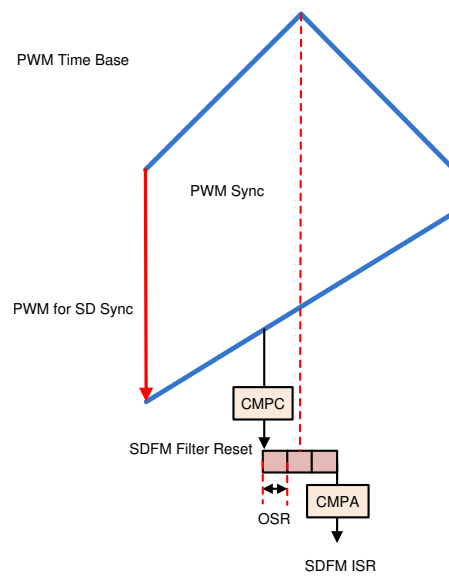

Figure 11. SDFM Filter Reset Being Generated From PWM Module and ISR Trigger to Read SDF Registers
On these devices, the PWM11 is tied to the SDFM reset generation; hence, the sync generation involves propagation of the sync from the inverter PWM to the PWM11 module. As the SDFM data is only valid 3 OSR time periods after the sync is provided, determine the time to read the SDFM data. Figure 11 shows the SDFM filter reset being generated from the PWM module and the ISR trigger to read the SDFM registers.
2. Confirm that the output filter is correct for the mode that the device will run in. For example, voltage source inverter uses an LC filter. The L2 and L2N slot must be jumper wired as shown in Figure 11.